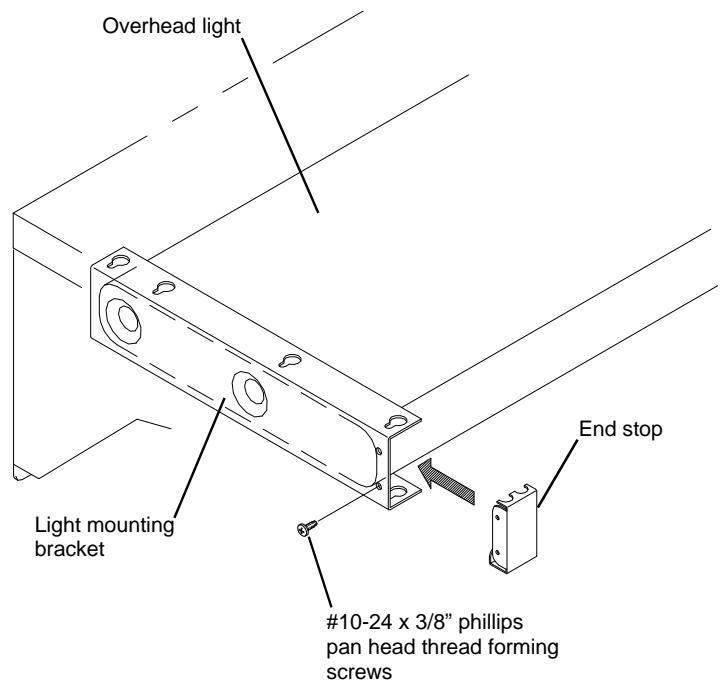

Figure 4
7. Attach an **End Stop** to the front of each light mounting bracket using the #10-24 x 3/8" thread forming screws provided. See **Figure 4**.